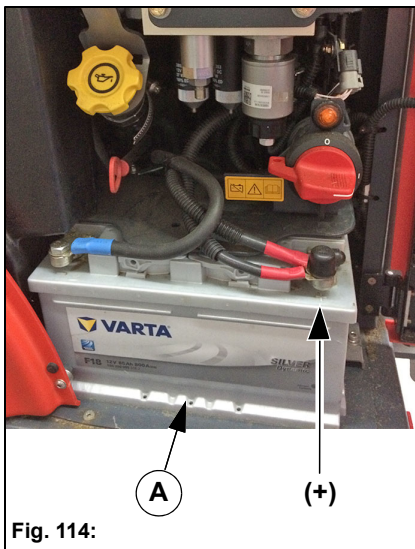

Fig. 114:
3. Open the left side door and loosen the battery holder of the battery **Fig. 114-A**.